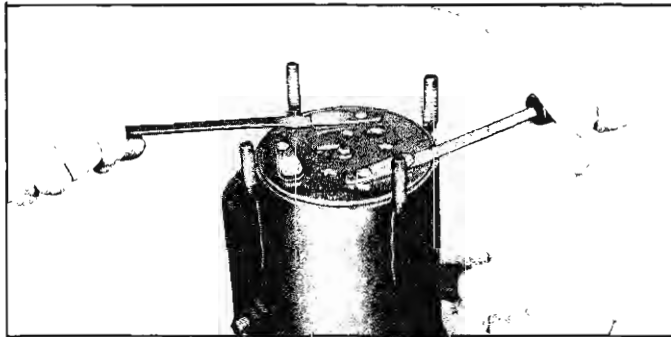

Fig. 25—Removing Rear Discharge Valve Plate
7. With two screwdrivers, carefully pry up on the rear discharge valve plate assembly (fig. 25). Check for broken reeds or damaged seats and replace entire assembly if such is found.